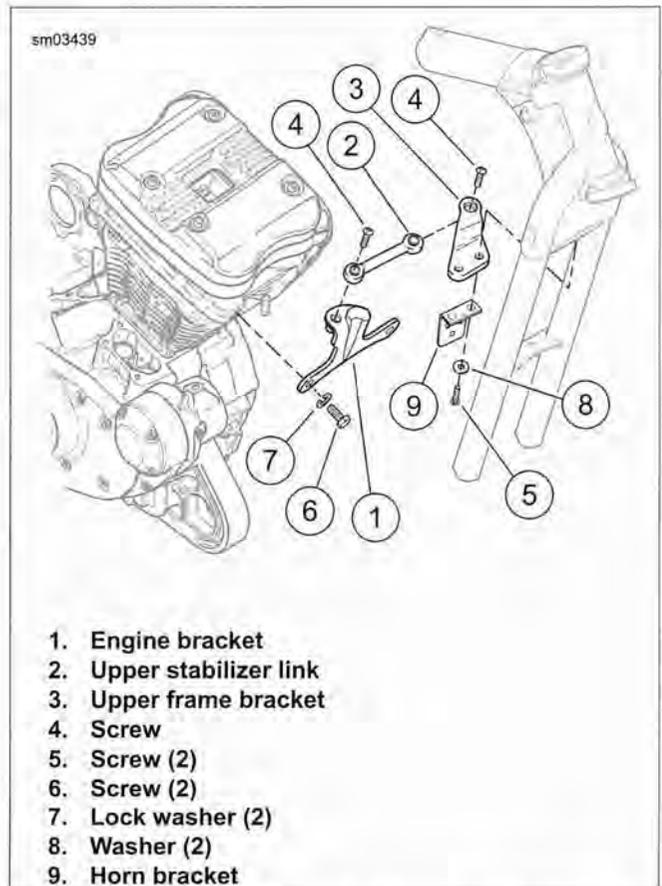
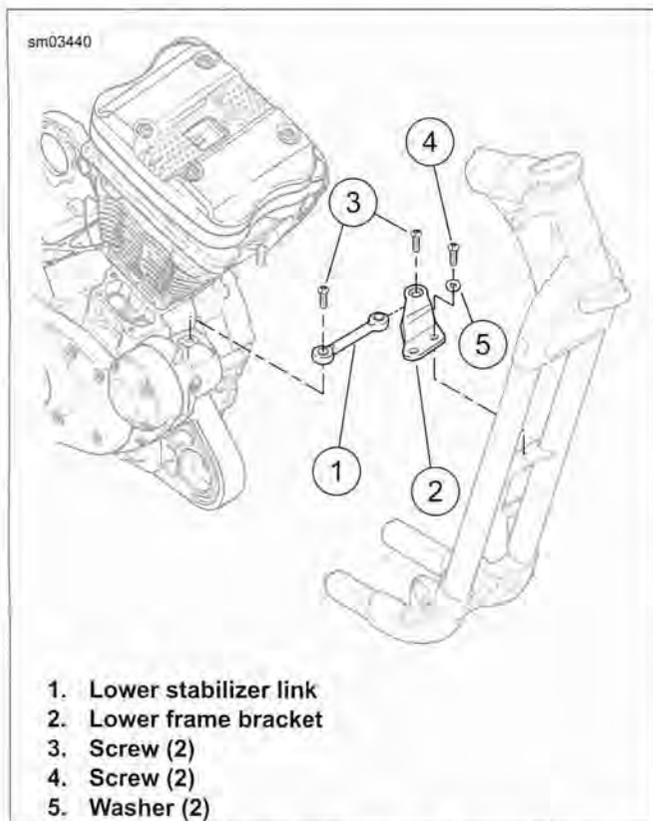

Figure 3-15. Upper Front Stabilizer Link Assembly
Figure 3-16. Lower Front Stabilizer Link Assembly (typical)
27. See Figure 3-15. Remove upper stabilizer link (2) and brackets (3, 1):
- a. Remove screw (4) securing stabilizer link to engine bracket (1).
- b. Remove screws (5) and washers (8). Remove horn bracket (9) (models with front mounted horn) and upper stabilizer link bracket with stabilizer link.
- c. Remove fasteners (6) and washers (7) and cylinder head bracket (1).
28. See Figure 3-16. Remove lower stabilizer link (1) and lower frame bracket (2):
- a. Remove screw (3) securing stabilizer link to engine crankcase boss.
- b. Remove screws (4), washers (5) and lower frame bracket with stabilizer link.